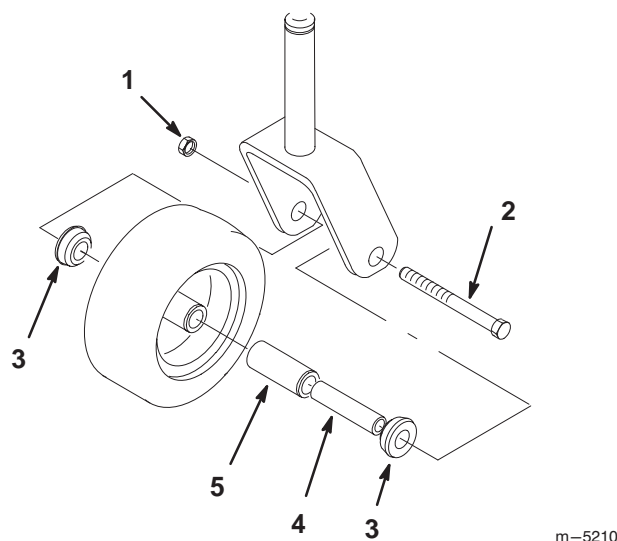

Figure 61
1. Remove the locknut and wheel bolt holding the caster wheel to the caster fork (Fig. 61).
2. Remove one bushing, then pull the spanner bushing and roller bearing out of the wheel hub (Fig. 61).
3. Remove the other bushing from the wheel hub and clean any grease and dirt from the wheel hub (Fig. 61).
4. Inspect the roller bearing, bushings, spanner bushing and inside of the wheel hub for wear. Replace any defective or worn parts (Fig. 61).
- To assemble, place one (1) bushing into the wheel hub. Grease the roller bearing and spanner bushing and slide them into the wheel hub. Place the second bushing into the wheel hub (Fig. 61).
- Install the caster wheel into the caster fork and secure with the wheel bolt and locknut. Tighten the locknut until the spanner bushing bottoms against the inside of the caster forks (Fig. 61).